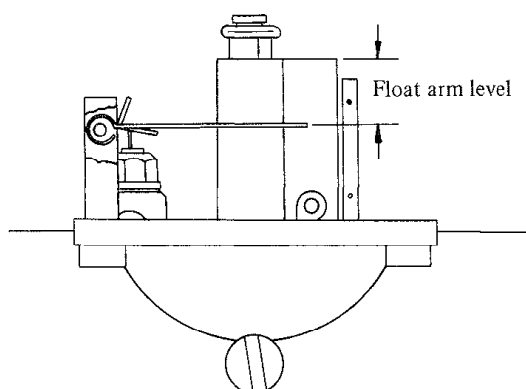

Fig. 7-5-2
- * Measure the distance between the float arm and the needle jet setter fitting surface as shown in Fig. 7-5-2.